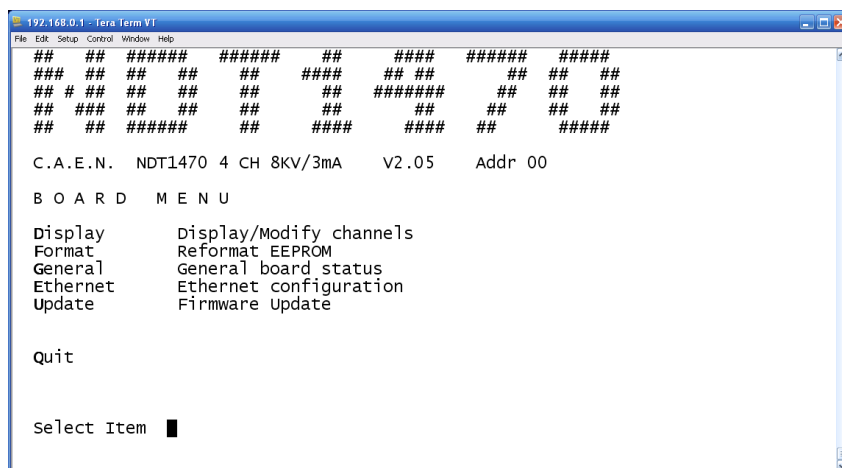

Fig. 22: Terminal Board Menu
- go to Terminal Board Menu (Fig. 22)
By typing F on Terminal Board Menu (Fig. 22) it is possible to access the format EEPROM menu.
By typing D on Terminal Board Menu (Fig. 22) it is possible to access channels settings
By typing G on Terminal Board Menu (Fig. 22) it is possible to monitor the General Board Status